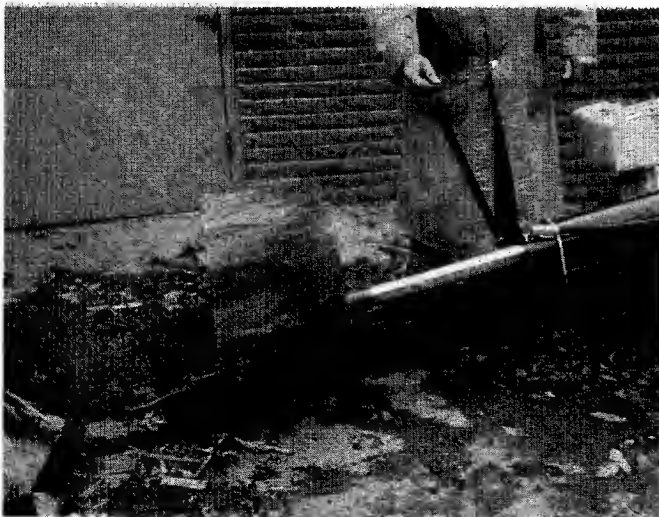

FIGURE 23
- F. Remove your hand from the log and step behind the ram. See figure 23.